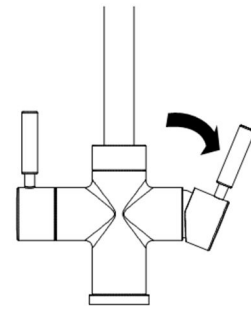

Fig 4.
- **Hot & Cold (domestic) water** – Mixed water is delivered when the right-side handle is tilted right (Fig. 4). With the handle tilted Cold water is delivered when pushed backwards, and Hot is delivered when pulled forwards.